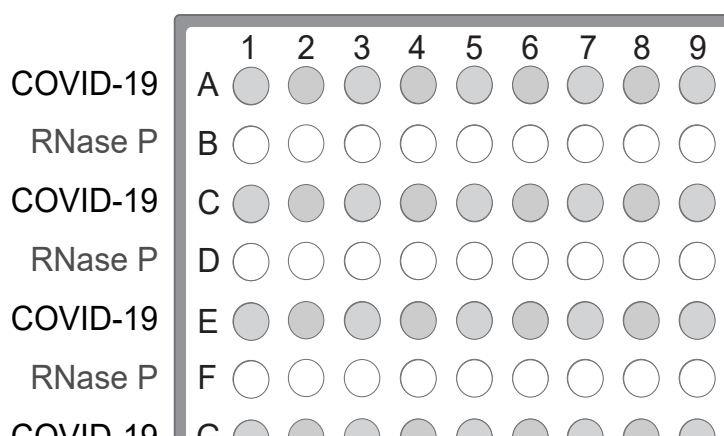

Figure 1 Assays in alternating plate rows
- a. Starting with row A, pipet 15.0 µL per well of the COVID-19 Reaction Mix into every other row of a MicroAmp™ Fast Optical 96-Well Reaction Plate with Barcode, 0.1 mL or a MicroAmp™ Optical 96-Well Reaction Plate with Barcode, 0.2 mL. See Figure 1 on page 55.